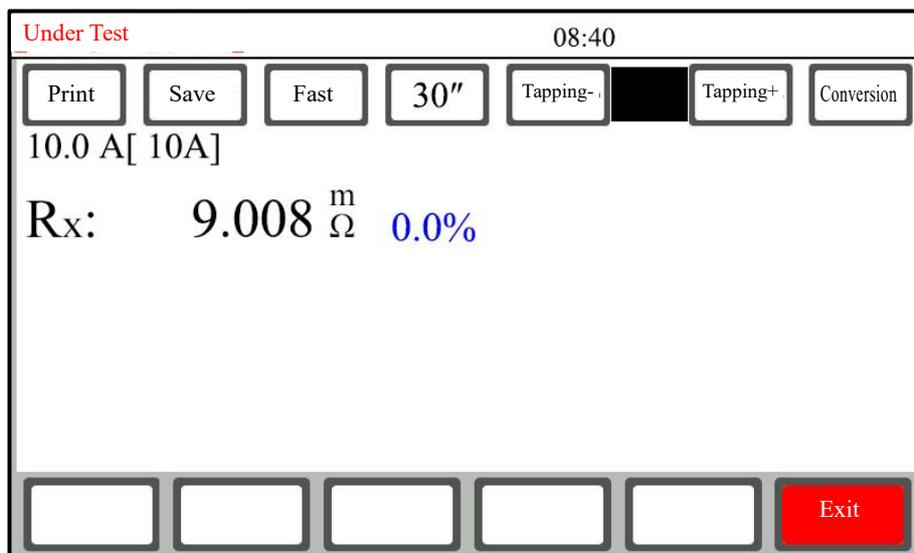

figure 9
After starting the test, the display indicates the test charge current value and prompts "Charging ...". The system clock starts timing to show when the test starts from charging. When the test current reaches the preset current and is stable, it prompts "Testing", then displays the test resistance value (RX), observes that the test current value and resistance value are stable, and the instrument is continuously tested (see Figure 9). The instrument starts from the display of resistance data to reach the stabilization interval, which will prompt the percentage of the error of the current resistance data and the resistance data before the stabilization interval to determine the stability of